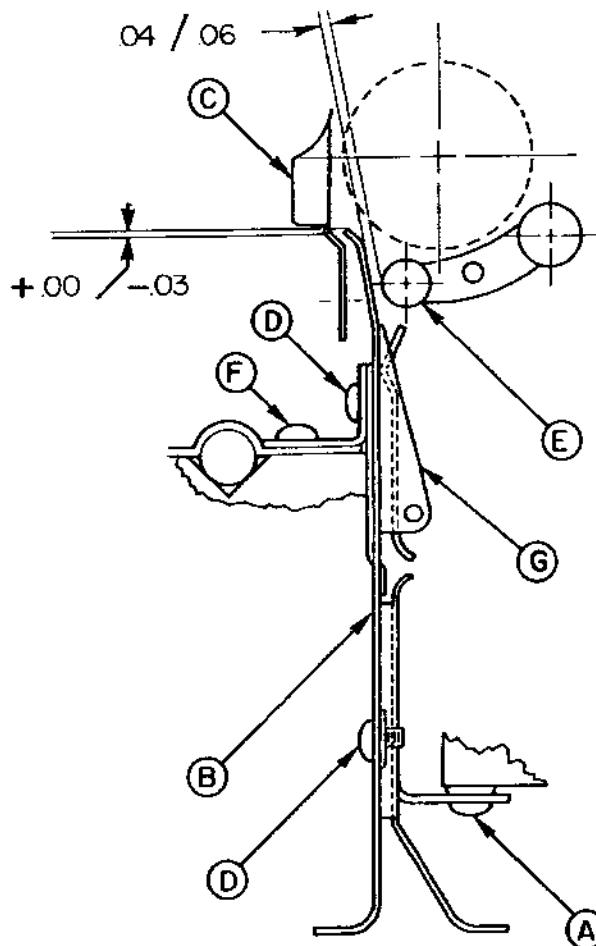

Figure 5-42 BOTTOM FEED PAPER CHUTE ADJUSTMENTS
Refer to Figure 5-42.
2. Move the Paper Release and Platen Position levers fully forward. Make sure all paper chute screws are loose, except those for the paper out switch and the front chute bottom bracket (Figure 5-42 Item A).